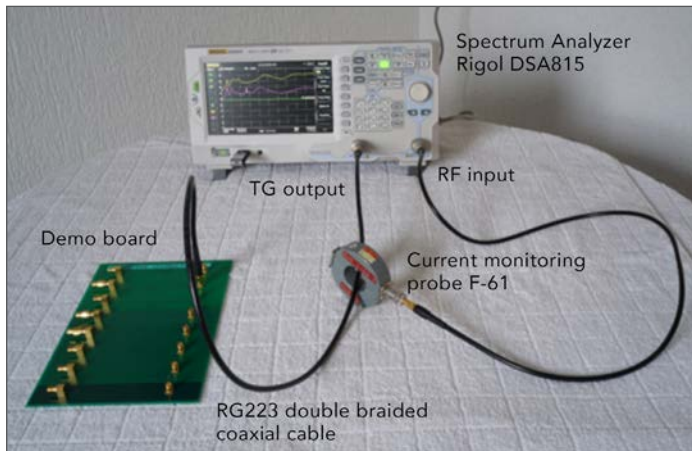

Figure 3. Measurement setup Common-Mode current generated by coplanar strips and microstrip
Figure 3 shows the measurement setup. On the demo board both lines are terminated with an SMA 50Ω RF load. The input of the line is connected to the tracking generator output of the Rigol DSA815 spectrum analyzer with an RG223 double braided coaxial cable of 1 m length. The tracking generator output level is $100 \text{ dB}\mu\text{V}$ (100 mV) over the frequency range 30 MHz to 300 MHz. For the frequencies involved the length l of the board traces is small compared to the wavelength ($l \ll 1 \text{ m}$). In both lines flows a differential mode (DM) current $I_{\text{DM}} = 100 \text{ mV}/50 \Omega = 2 \text{ mA}$. With a current monitoring probe from Fischer Custom Communications (F-61) the common-mode (CM) current on the double braided coax cable is measured. The current probe is connected to